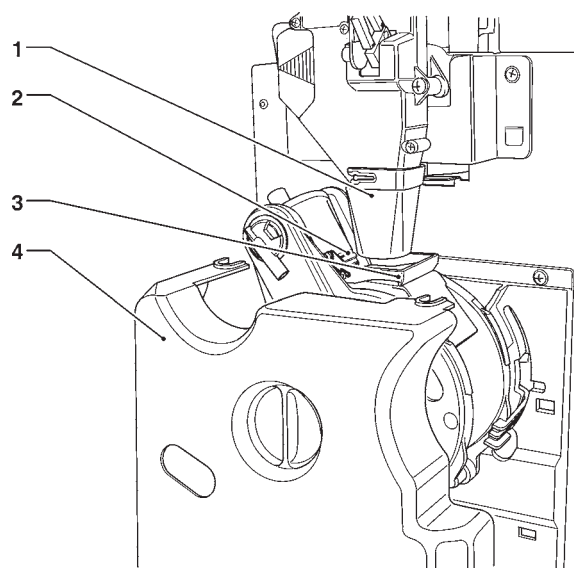

Fig. 16
It is good practice to periodically remove the cover of the infuser unit and the coffee funnel. Slide the funnel towards the right for unfastening it from the doser (see Fig. 16).
**It is essential to reinstall the cover before restarting the machine (see Fig. 16).**